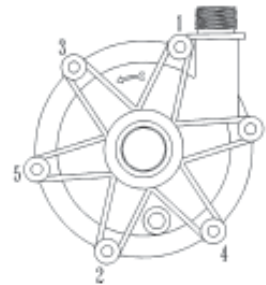

Figure 5
11. Reassemble the wet end by placing the impeller (items 18 and 19) onto the ceramic shaft in the column housing adapter (item 15). Install the housing o-ring (item 16), and lubricate with a compatible lubricant. Align the marks made on the housing (item 21) and the column housing adapter (item 15) during disassembly. Install the impeller housing (item 21) onto the column housing adapter taking care not to dislodge the o-ring. Align the bolt holes and install the six mounting screws (item 22). Use a Teflon thread lubricant on the PVDF screws. Following the pattern in Figure 5, carefully tighten using a screwdriver. Do not over-tighten the screws (recommended maximum torque is 25 in-lbs. Reach into the suction and spin the impeller with your finger to verify it is not rubbing or binding).